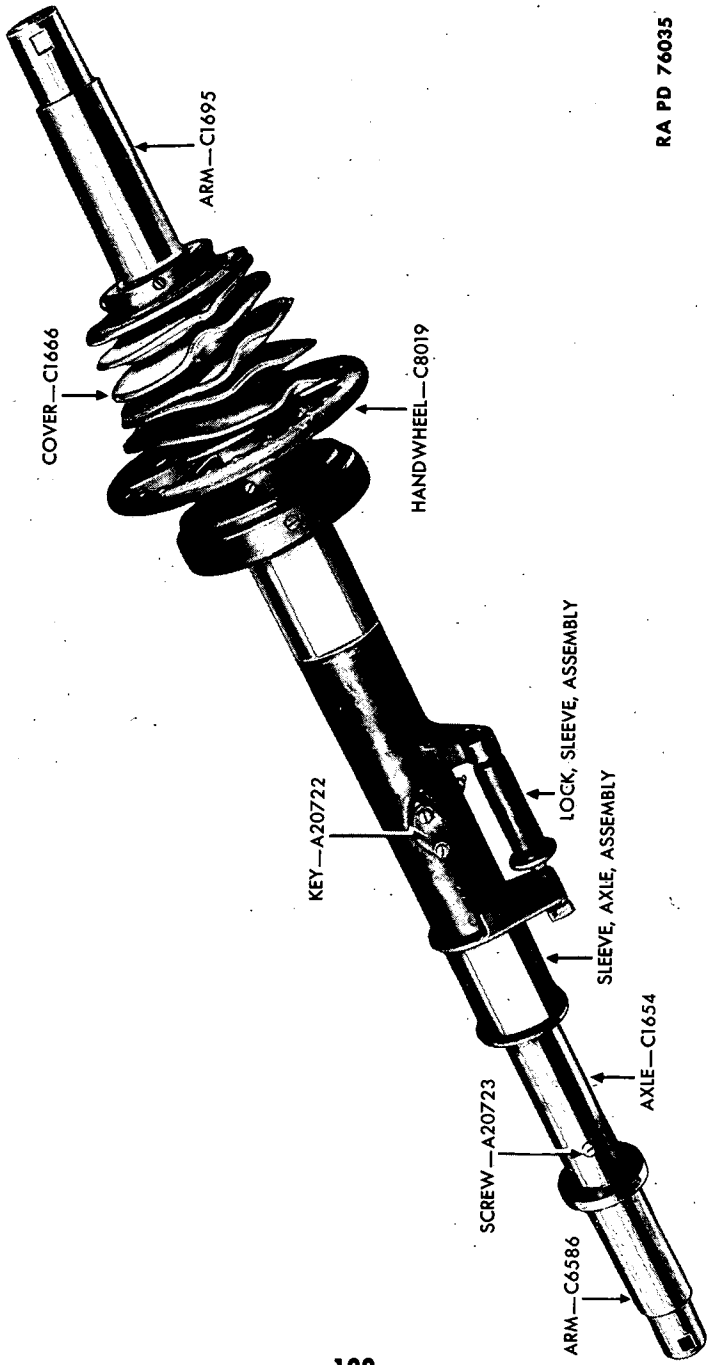

Figure 82—Axle and Traversing Mechanism Assembly—M1 and M8 Carriages
(7) Make certain that the elevating mechanism is properly lubricated after assembly. Lubrication instructions are given in section X.
a. General (fig. 82).
(1) The traversing mechanism is integral with the axle. This construction provides an axle traverse of 3 degrees to the right and 3 degrees to the left.
(2) The axle is a round steel bar bored out at each end to accommodate the axle arms. The left arm is pinned, whereas the right arm is attached to the axle with a screw to facilitate disassembly and assembly.
(3) The axle is retained in the trail bearings by means of a sleeve. This axle sleeve fits in the trail bearings so that the sleeve cannot rotate or move transversely. It also furnishes a sliding connection between the axle and the trail bearings, and carries the traversing mechanism.
(4) The sleeve may be inserted by matching the proper surfaces. It is locked in position by turning the hinged handle lock 90 degrees. The hinged handle lock serves as a lever to turn the axle sleeve.
(5) The body of the axle is graduated in mils for traverse, the right end of the axle sleeve forming the index of the graduations. The axle is grooved near the left end to form an inner race for the traversing mechanism ball bearings, which act as threads in traversing.
(6) The traversing mechanism is composed of the traversing nut, handwheel, handwheel machine screw, ball bearing, ball bearing cap, ball bearing nut, and 71 $\frac{5}{16}$ -inch diameter steel balls.
(7) The bellows-like dust cover between the axle arm and traversing handwheel prevents the entry of dirt or foreign matter into the traversing mechanism. It also protects the grooved portion of the axle not covered by the axle sleeve. This dust cover does not rotate with the traversing handwheel.
(8) When the materiel is transported on its wheels, the axle is locked to the front trail by means of the axle sleeve lock. The hold-down cable is attached to the traversing handwheel and acts as a holding device for the top sleigh assembly.